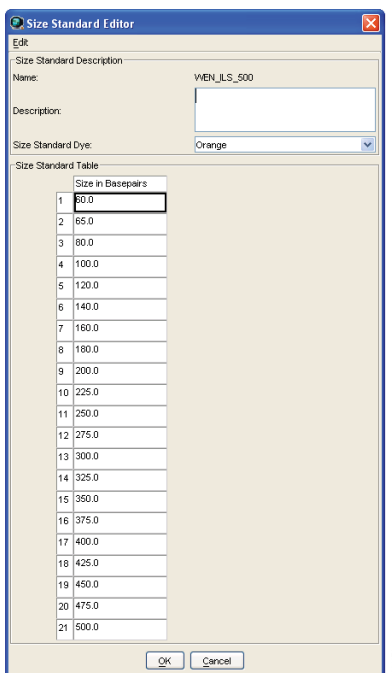

Figure 17. The GeneMapper® ID Size Standard Editor.
- Enter a detailed name, such as “WEN ILS 500”, in the Size Standard Editor (Figure 17).